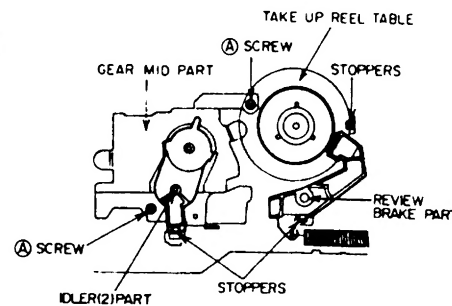

Fig 1.
- 1: Remove the CASSETTE LOAD BLK & LOADING ARM BLK. (Refer to REMOVAL OF THE EJECTOR BLK.) Release the stopper of the IDLER PART (2) as shown in Fig. 1, then remove it.